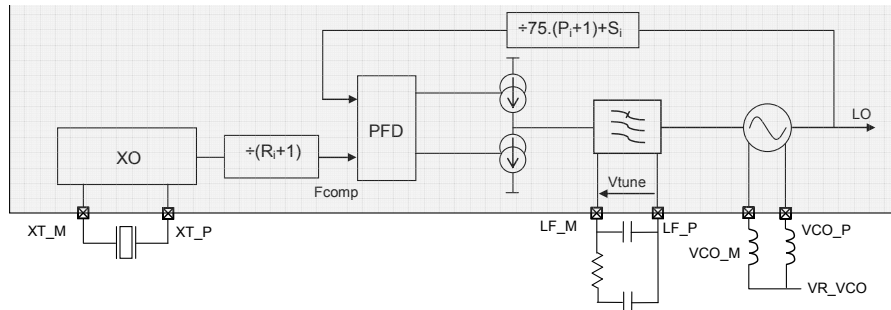

Figure 5: Frequency Synthesizer Description
The crystal oscillator (XO) forms the reference oscillator of an Integer-N Phase Locked Loop (PLL), whose operation is discussed in the following section. Figure 5 shows a block schematic of the SX1212 PLL. Here the crystal reference frequency and the software controlled dividers R, P and S determine the output frequency of the PLL.
As shown in Figure 5 the PLL structure comprises three different dividers, R, P and S, which set the output frequency through the LO. A second set of dividers is also available to allow rapid switching between a pair of frequencies: $R1/P1/S1$ and $R2/P2/S2$. These six dividers are programmed by six bytes of the register `MCPParam` from addresses 6 to 11.